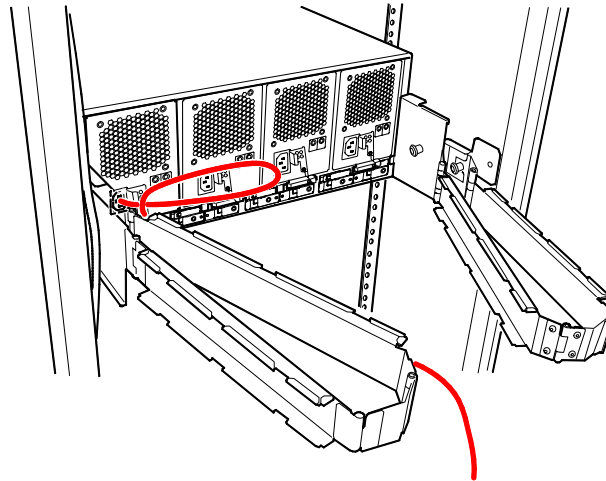

Figure 2.5.37 Routing of the Power Cable #B0
- (b) Route the power cable #B0 as shown in the Figure 2.5.37.